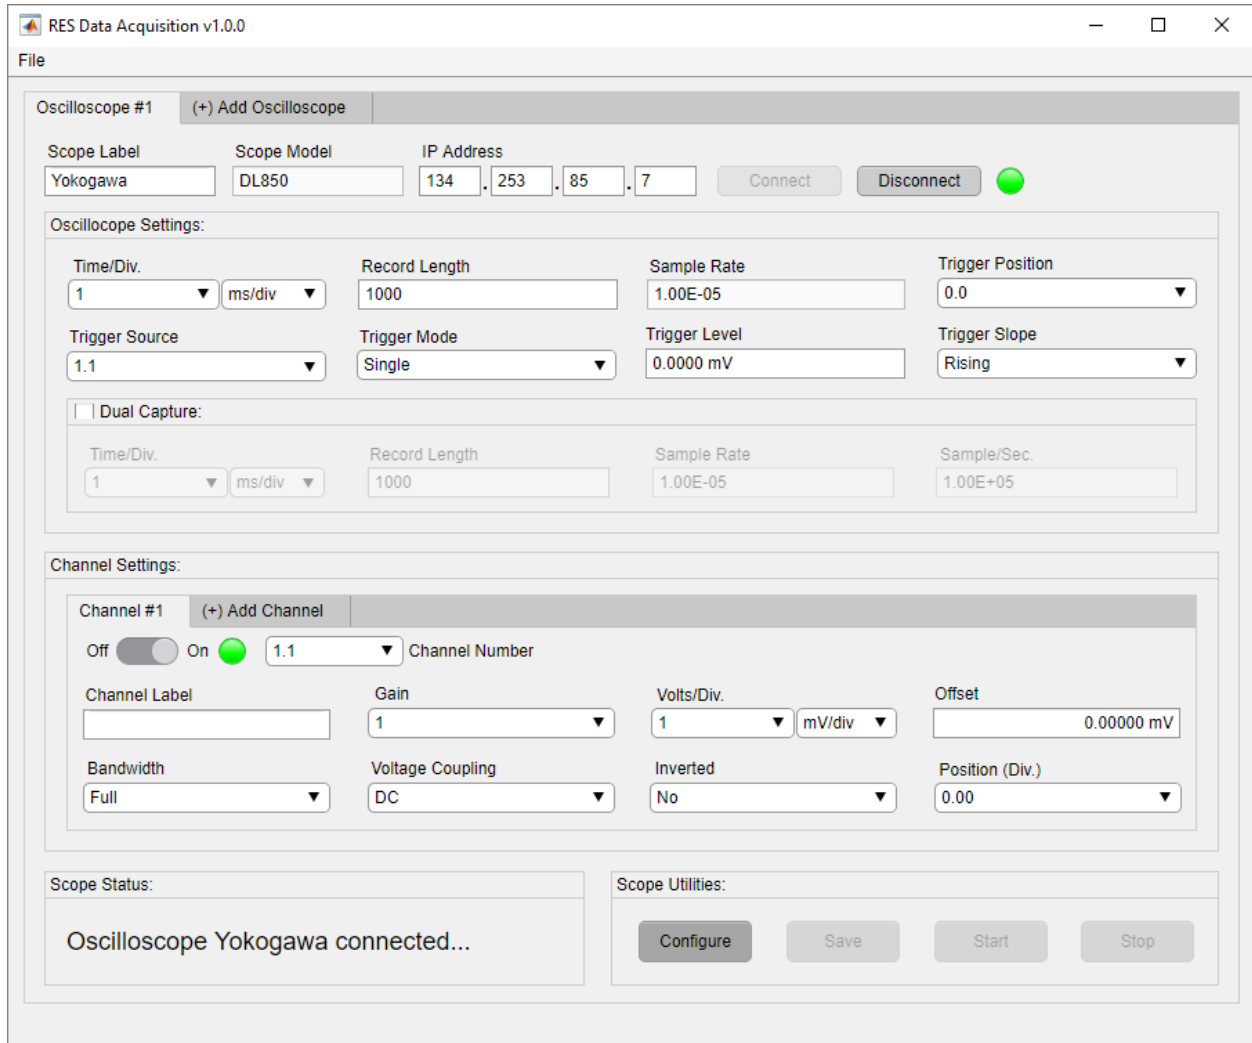
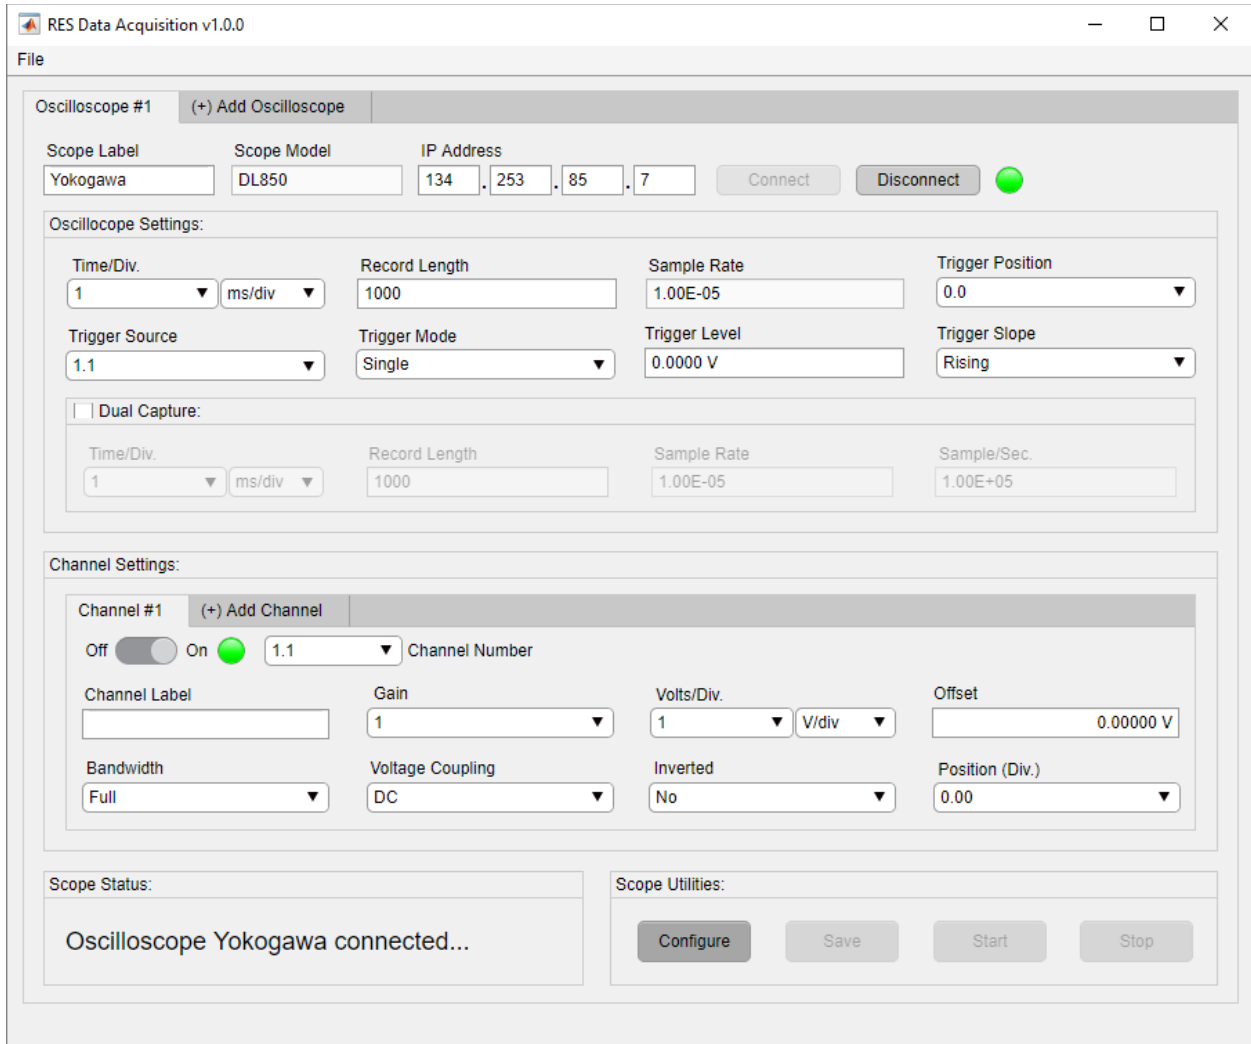

Figure 3-23. Trigger Level Units Default Value
Figure 3-24. Trigger Level Units Change
The Trigger Level is located in the Oscilloscope Settings panel. The Trigger Level setting refers to the signal level, measured in voltage, used to detect a signal's high or low state. The trigger level units dynamically update when the voltage per division setting is altered for the displayed trigger source as seen in Figure 3-23 and Figure 3-24.
As shown in Figure 3-23, the trigger level units change from Millivolts (mV) to volts (V). This change reflects the voltage per division setting seen in the channel tab (Figure 3-24).